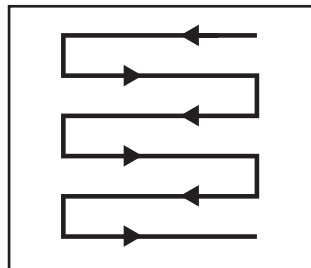

Fig. 15
5. Mow in slight overlapping rows. The most effective pattern for mowing lawns is straight lines along one of the sides. This will keep the rows even and ensures that all the lawn is cut without missing any spots (Fig. 15).
8. Empty the grass collector (14) regularly.